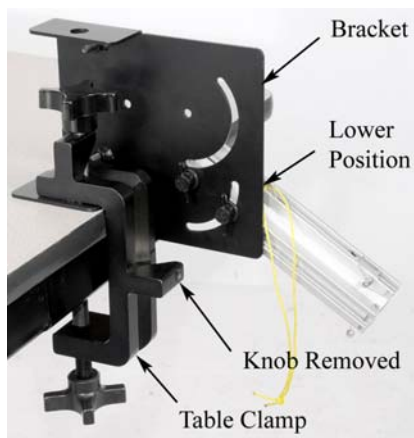

Figure 3: Launcher Mount
1. The launcher is mounted on the bracket in the lower position (see Fig. 3). Slide the launcher all the way back so that it pivots about the launch position of the ball.
2. Fasten the launcher to the table using the Table Clamp. It is easier to adjust the launcher angle if you remove the knob as shown in Figure 3.